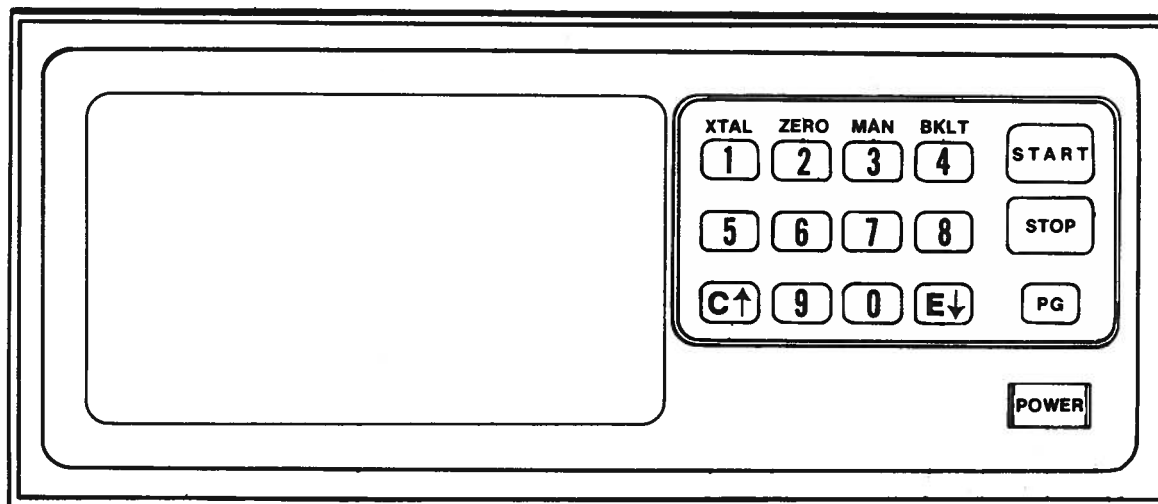

Figure 2.1 XTC Front Panel Description
Prior to installing and operating the XTC you should become familiar with the available indicators, switches, and connections that will be referenced throughout this section. Refer to Figure 2.1 for location of buttons, keys, and displays as well as a functional description of their use.
The Keyboard Descriptions contain information on all front panel keys. Refer to Figure 2.1 for their location. There are (6) two function keys, and they are identified as such in the description.